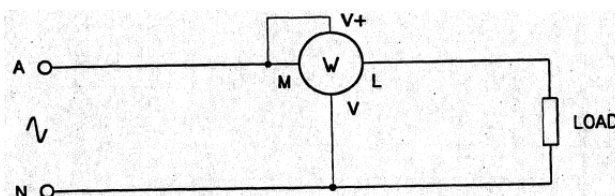

Figure 1. Typical single phase wattmeter connection
- 2 If the true power in a single phase circuit is to be measured, a typical connection is as shown in Figure 1. It is essential to check both the voltage rating and the current rating on the wattmeter (individually) to ensure that the ratings are above the expected circuit values.